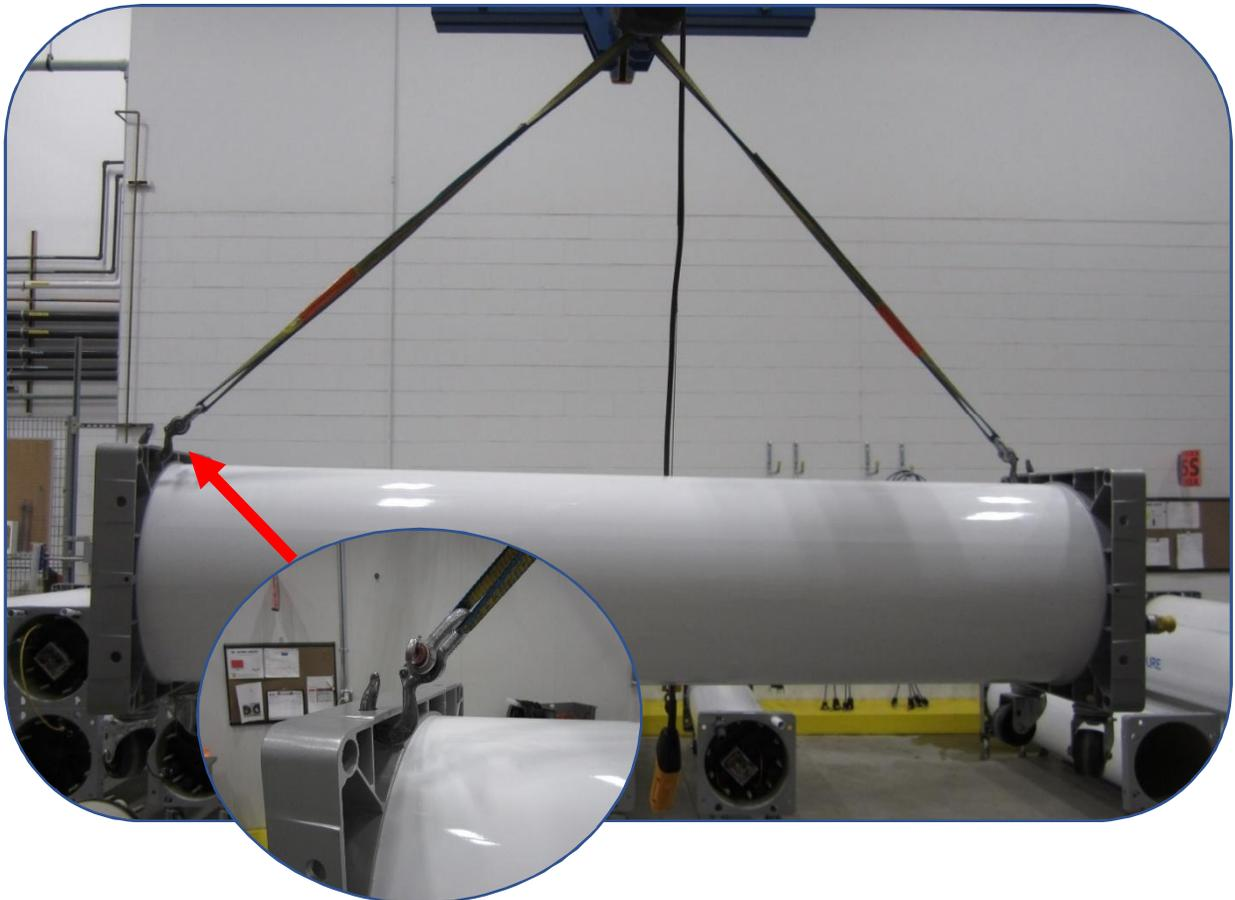

Figure 2-1 Lifting VNX module via housing FlexMounts
- The VNX modules can weigh 300-600 lbs. (136-273 kg) dry, depending on size, and will require mechanical assistance for lifting and moving into position. See Figure 2-1 for one example of how to lift a VNX module.